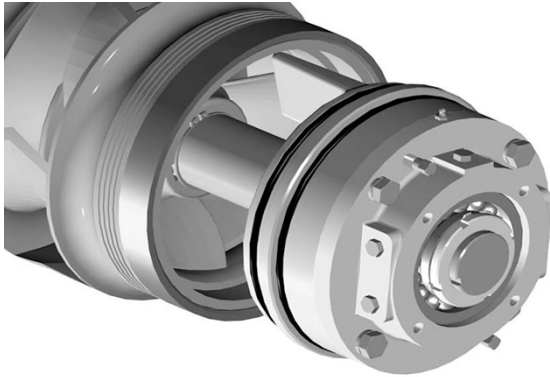

Figure 44: Lockwasher and locknut installed on outboard (opposite of coupling) end of rotating assembly
24. Install the locknut and lockwasher on the outboard (opposite of coupling) end of the shaft. Make certain that the locknut is secure and bend over the tabs on the lockwasher. (see Figure 44)